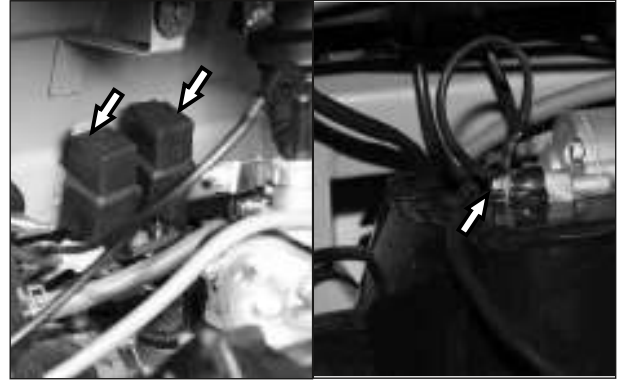

Fig. 5.97
- Disconnect the starter relay from cabin. (Fig. 5.97)
- Loosen and remove 1 no. hexagonal flange bolt (M6 x 25) of earth cable from cowl LH and separate the earth cable. (Fig. 5.97)